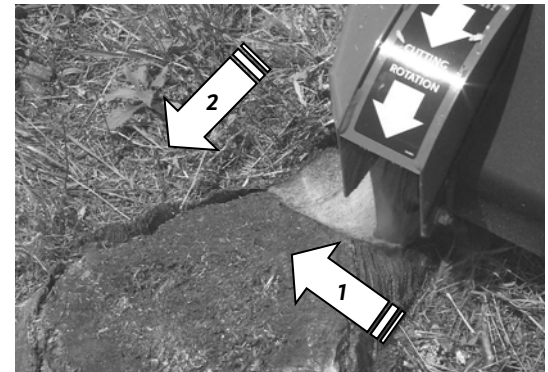

Figure 41
7. Swing the Cutter Head over to the right side (**Figure 41** arrow #1), advance the machine forward (arrow #2) by releasing and resetting the brake. The machine should only be advanced far enough to engage the Cutter Head into the stump so that when swept across the stump it will remove 1/2" to 1" of stump with each sweep.